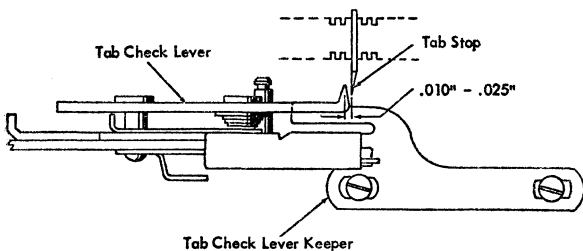
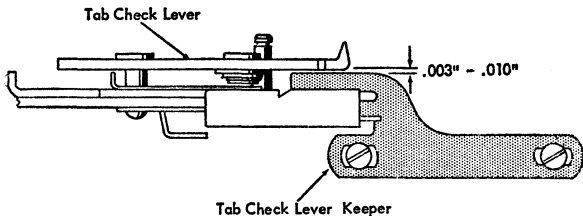

Figure 25. Tab Check Lever Adjustment
Figure 26. Tab Check Lever Adjustment
7. TAB CHECK-LEVER KEEPER. Position the tab check-lever keeper on the rear rail, left to right, so there is a clearance of .010" to .025" between the working surfaces of the tab check-lever and a tab stop when the parts are at rest (Figure 25). Position the keeper, front to rear, so that there is a clearance of .003" to .010" between the tab check-lever and the keeper with the tab lever latched to the rear (Figure 26.)